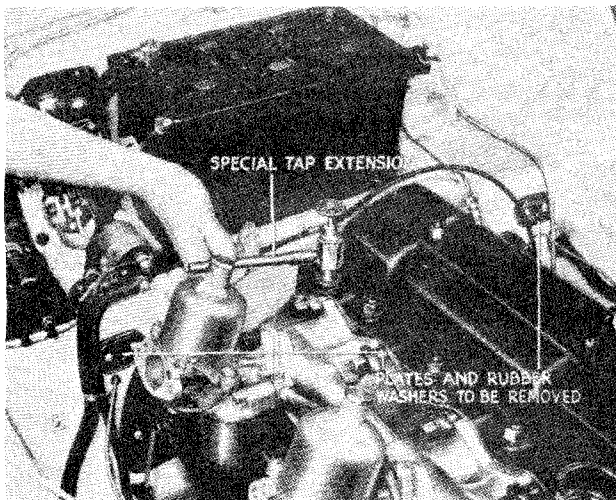

Fig. 8 Fitting Tap Extension
3. Fit the taper threaded tap (28)(Fig. 16) into the tapped hole at the rear of the cylinder head and screw into the tap the special extension (27), so that this protrudes from the engine on the R.H. side of the unit (Fig. 8).